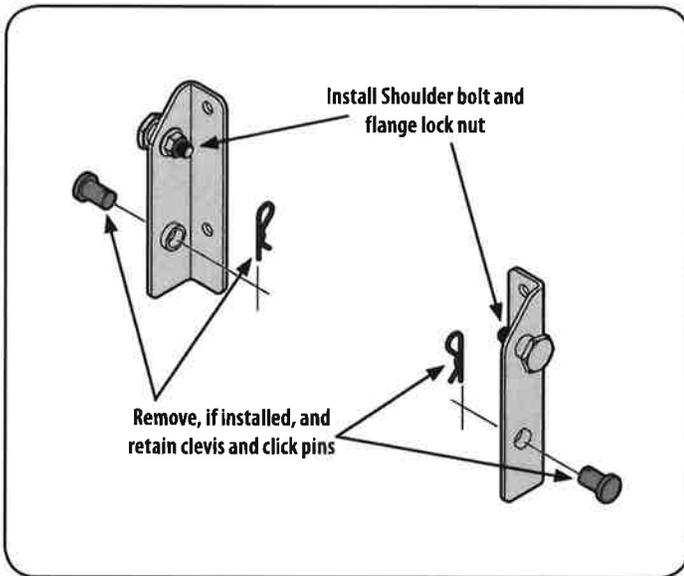

Figure 1
1. If not already installed by the factory, install a shoulder bolt from the hardware pack onto each bracket, securing them with flange lock nuts also included in the hardware pack included with these brackets. Refer to Figure 1.
2. If already installed in the brackets, remove the clevis pins and clips, retain for later instructions. Refer to Figure 1.